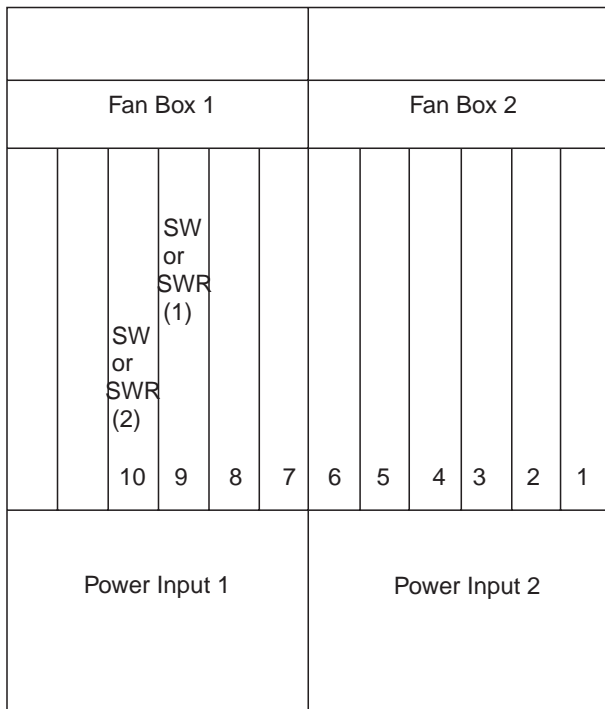

Figure 6-12. 2220 Rear View
1. Locate the switch or the switch redrive module that you have to exchange, using Figure 6-12 and note carefully its slot position.
<p>1</p> <ul style="list-style-type: none">• Locate the switch or switch redrive module using Figure 6-12 on page 6-62• If you have a rack expansion (2220 Model 501 connected):<ul style="list-style-type: none">– Continue with Step 2.– Otherwise go to Step 3.